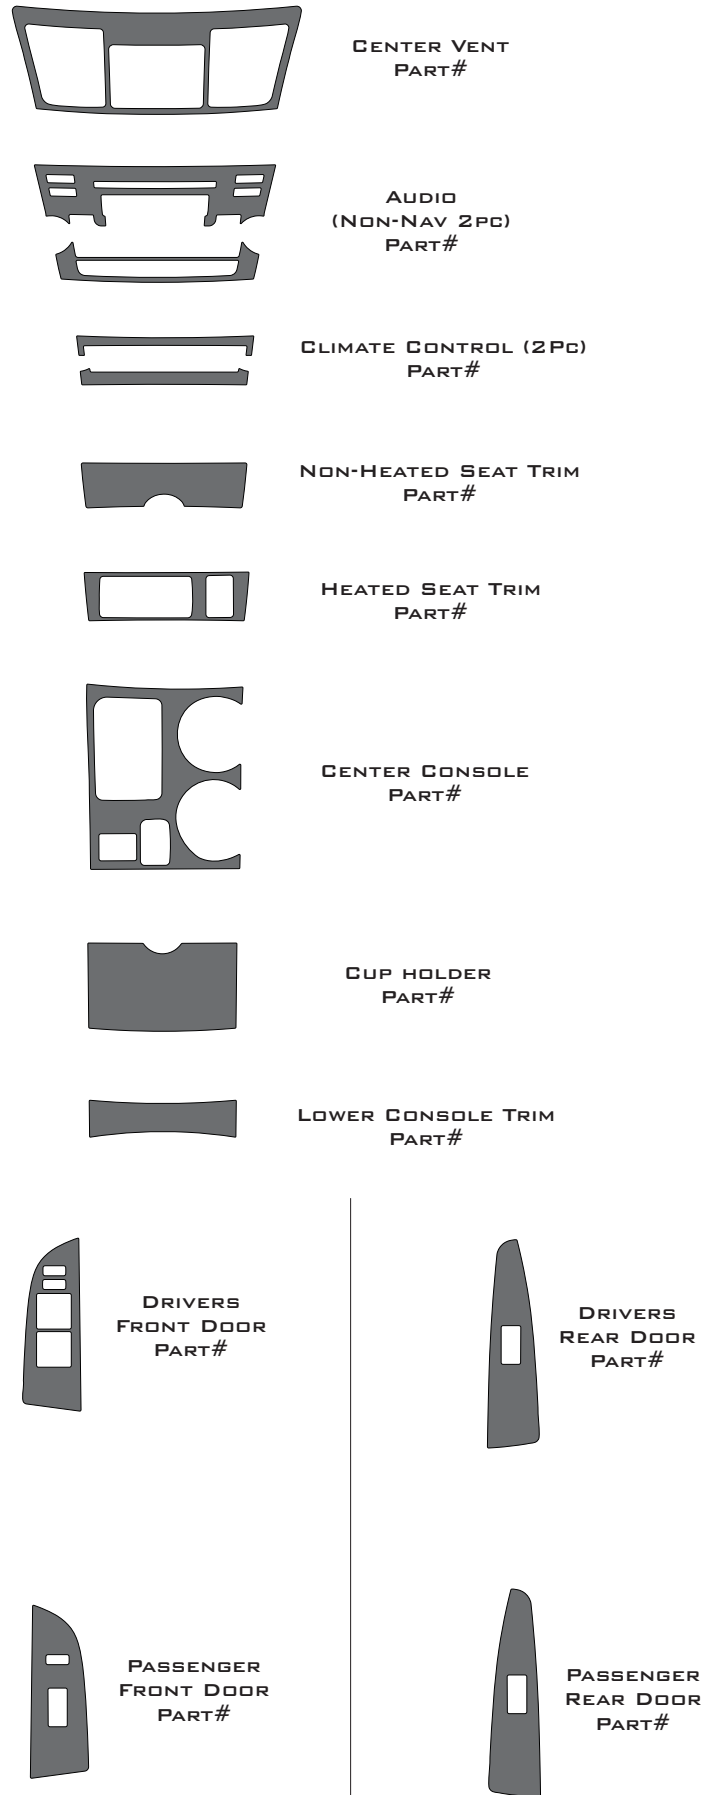

Fig. B1
1. Inspect parts prior to installation to avoid unnecessary removal. (Fig. B1).
**Service Part Numbers: Fig. B1**